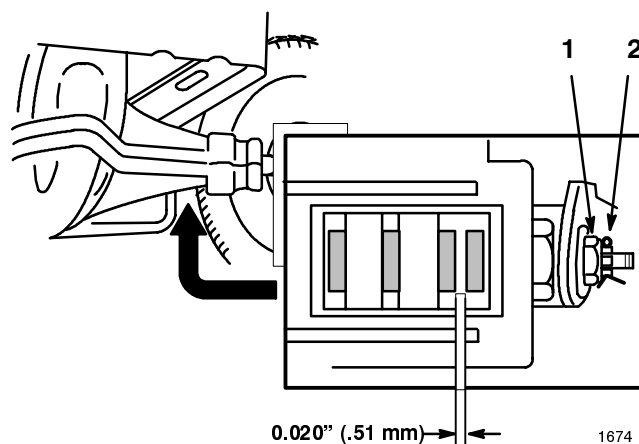

Figure 16
The brake is on the right side of the rear axle, inside the rear tire (Fig. 16). If the parking brake does not hold securely, an adjustment is required.
3. To adjust the brake remove the cotter pin and loosen the brake adjusting nut slightly (Fig. 16).
4. Carefully insert a 0.020" (.51 mm) feeler gauge between the two outer brake pads (Fig. 16).